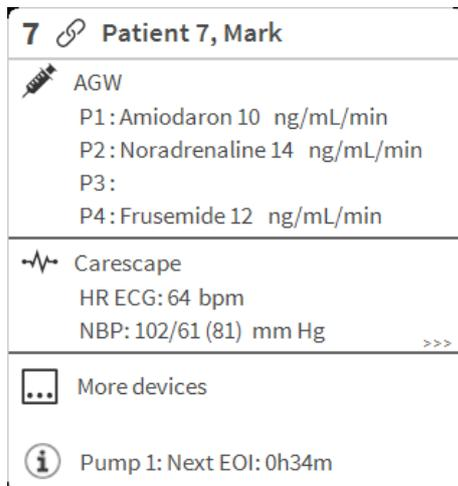

Fig 64
- Click the “Bed area” referring to the bed to be displayed (Fig 64)